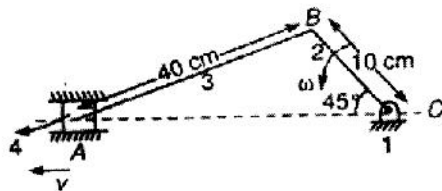

Fig. 1
2. A Slider crank mechanism is shown in Fig. 1. Length of crank and connecting rod are 10cm and 40 cm respectively. If crank rotates anticlockwise with an angular velocity of 20 rad/s, then find out angular velocity and angular acceleration of connecting rod and linear acceleration of the slider.